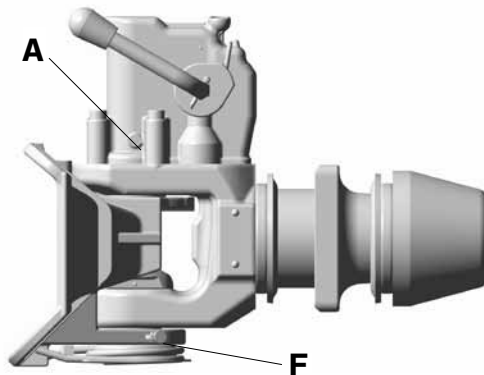

Fig. 5
- Under harsh operating conditions or severe exposure to dirt or water regrease automatic unit (A) when coupling is open (see fig. 5):
- Lubricate lower funnel bearing (F) with EP3 grease.